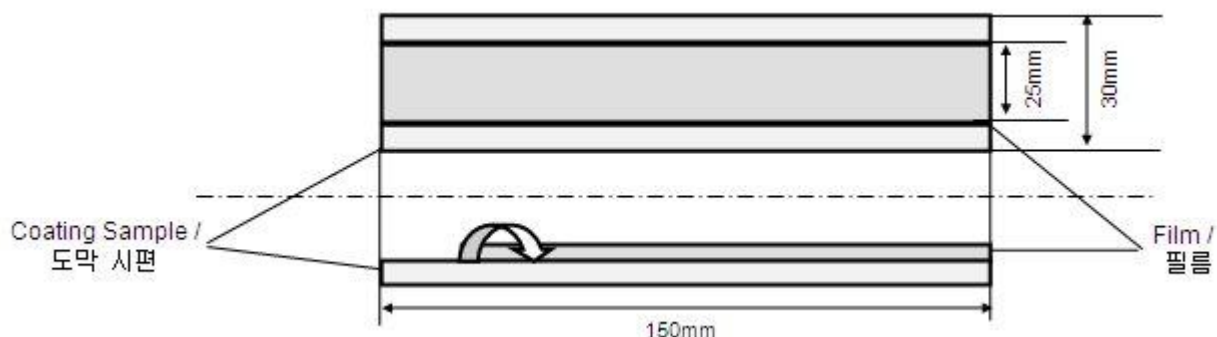

Figure 3: Adhesion strength test piece /
3.3.6.3.1.4 Cut a 25 mm piece out of a side of the film in the test piece as shown in Figure 3 and mount it to the test jig in 180 ° direction. Measure tensile strength while applying tensile loads at a rate of 300 mm/min.